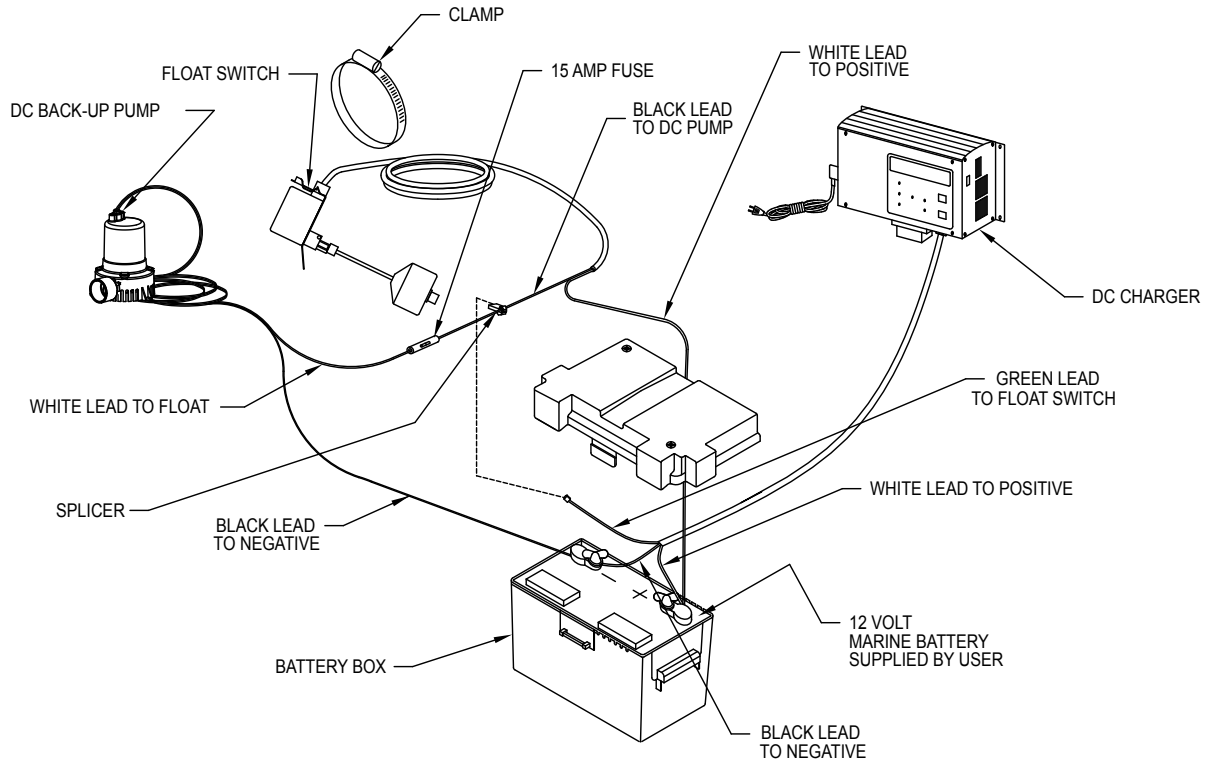

FIGURE 3
- Connect the black lead from the pump to the negative (-) battery terminal. Connect the white lead from the pump to the black lead from the switch. This connection is made at the fuse installed on the switch wire (see figure 3). Connect the white lead from the switch to the positive (+) battery terminal.
- Connect the green sensor wire to the sensor connector (figure 3).